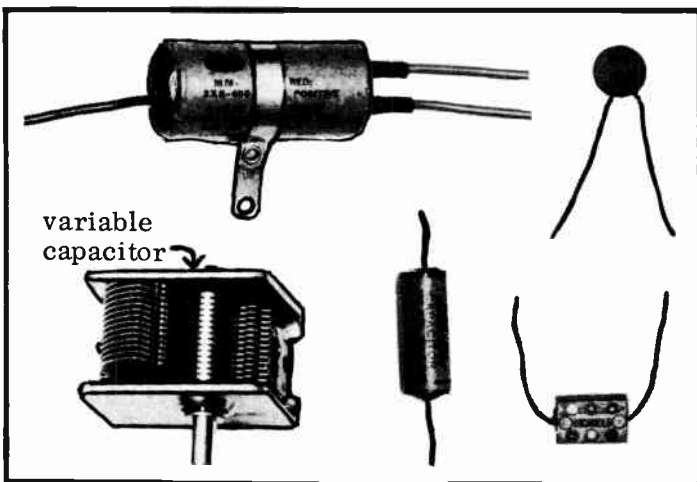

FIG. 4-20. VARIOUS TYPES OF CAPACITORS USED IN RADIO.
will light for an instant, indicating that a current is passing through it. The electrons will continue to flow until plate B no longer has a surplus of electrons. Plate B is then said to have a zero charge. Plate B is now neutral and of course, plate A will have regained its electrons so that it also is neutral. The capacitor is now said to be DISCHARGED. A capacitor, then, is a device in which electricity may be stored for a period of time. Fig. 4-20 illustrates several different types of capacitors used in radio work.
**THE FIXED CAPACITOR.** Fixed capacitors are capacitors that have a non-adjustable value of capacitance. (See Fig. 4-20). They are usually made of thin pieces of metal foil acting as the plates and a thin, solid dielectric which is sandwiched between the plates. The most common solid dielectrics used are paper, mica and ceramic. Typical values of fixed capacitors range from 1 pf to 1 mf.
**3 THE ELECTROLYTIC CAPACITOR.** The electrolytic capacitor is most commonly used where a large value of capacitance is needed. (See Fig. 4-20). Values of electrolytic capacitors are from 1 mf up to 1 f. The plates are usually made of aluminum foil with a liquid or paste chemical compound between them. When a voltage is applied across the plates of an electrolytic capacitor, a thin electro-chemical film is formed on the plates which acts as the dielectric. This type of capacitor has polarity and its terminals or leads are marked positive (+) and negative (-). The polarity must be observed when using an electrolytic capacitor in a circuit.